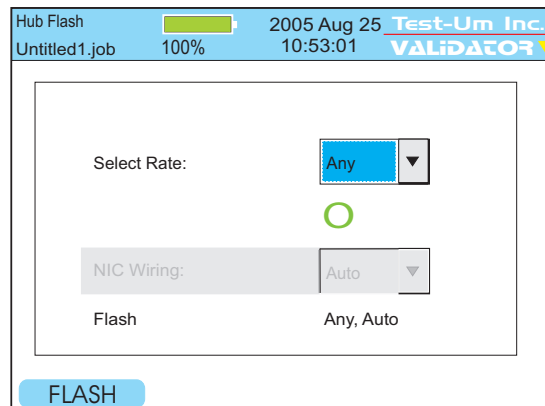

Figure 5.8 Hub Flash Test
2. From the drop down menu, select a specific data rate or Any if you wish to have the hub and Validator auto negotiate the speed. (Figure 5.8)